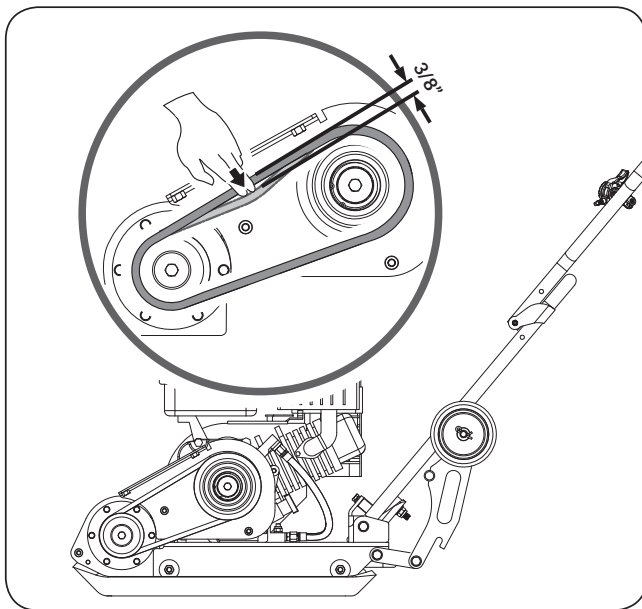

Figure 7b
4. Check the V-belt tension by squeezing them in the center. The normal deflection on each side should be 3/8" (9mm) to 1/2" (13mm) with moderate pressure from your thumb or finger. (See **Figure 7b**)
7. Move the engine back by turning the adjusting bolts A until reach the right belt tension, Refer to the **Figure 7b** to check the belt tension. Then lock the jam nut B.